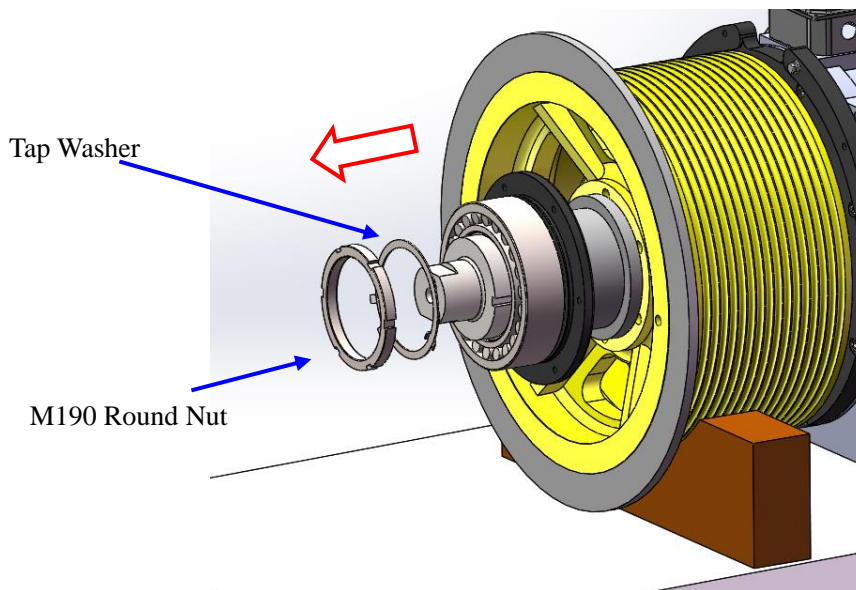

Figure 81: Remove M190 Round Nut and Tap washer
11. Remove the M190 Round Nut and Tap washer with a large screwdriver and hammer. See Figure 81.